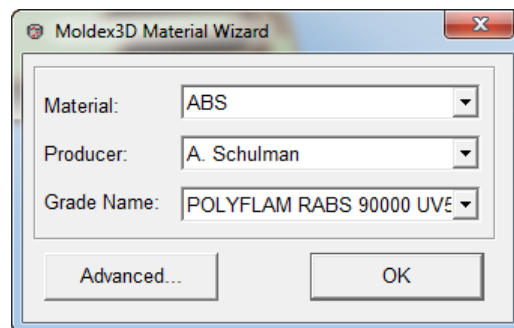

Figure 16-71 The Moldex3D Material Wizard dialog box
3. Choose the **Push button to select material** button in the **Material Setting** rollout; the **Moldex3D Material Wizard** dialog box is displayed, refer to Figure 16-71.